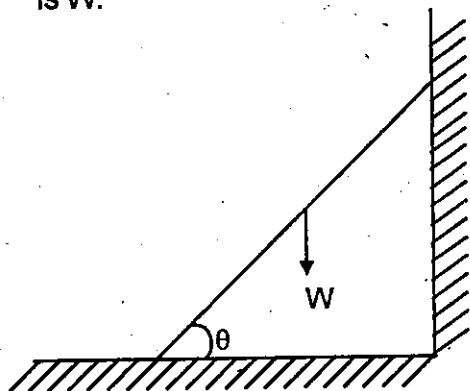

Fig. 1
- (ii) If  $\mu_1$  and  $\mu_2$  are the coefficients of friction at the ends of a ladder resting on ground and against a vertical wall, respectively, as shown in Fig. 1, then find the maximum angle ( $\theta$ ) the ladder may make with horizontal. The weight of the ladder is  $W$ .